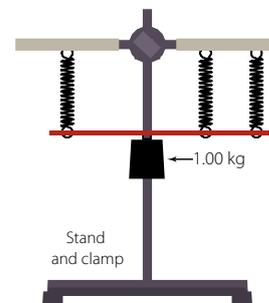

Figure 2
4. Now connect two springs in parallel (see Figure 2) and repeat the process above.